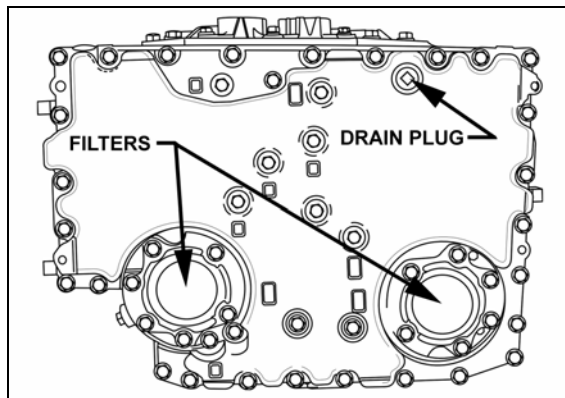

FIGURE 10: PLUG AND FILTERS
2. Remove the drain plug from under the transmission (Fig. 10) and allow the oil to drain into a suitable container. Check the condition of the oil as described previously.
3. To replace the integral filters, remove twelve bolts (6 on each cover), two filter covers, two O-rings, two square cut seals and the two filters from the bottom of the control module (Fig. 10).